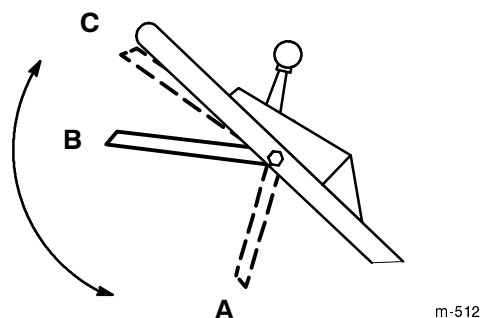

Figure 12
1. Have the control bar in the *A* position (Fig. 12).
2. Slide the control bar to the right and raise it to the *B* position to engage the blade (Fig. 12).
3. Squeeze the control bar against the handle to the *C* position to drive (Fig. 12).